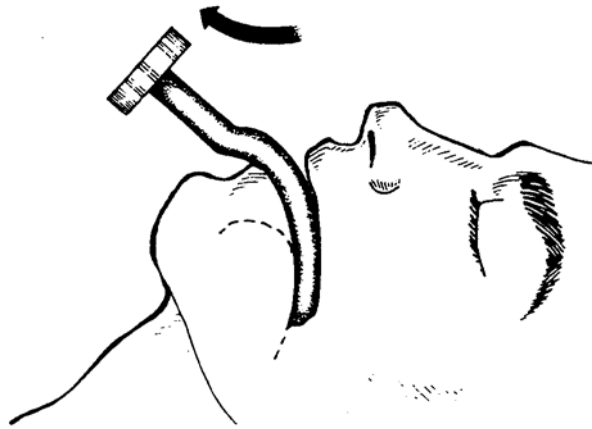

Figure 2-5. Tip of the J-tube at the back of the tongue.
(2) Point the tip of the airway toward the roof of the patient's mouth to prevent the tongue from being pushed into the back of the throat.
(3) Slide the airway along the roof of the mouth, following the natural curvature of the tongue, past the soft palate.
(4) Rotate the airway 180 degrees as the tip reaches the back of the tongue (figure 2-5).